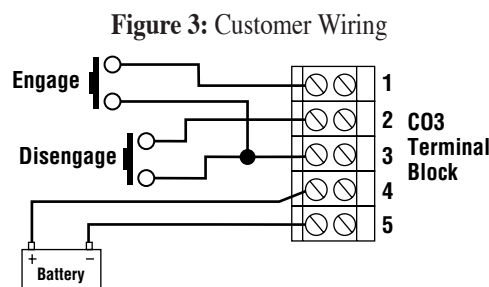

Figure 3: Customer Wiring
8. Temporarily wire Battery Negative to terminal #5, Positive to terminal #4 of the CO3 (**Figure 3**).
9. Apply a momentary N.O. push button between terminals #1 and #3. When the push button is pressed the CO3 actuator will extend (**Figure 3**). **CAUTION: Be ready to release the push button when the clutch arm is fully engaged. Damage to the clutch or the CO3 can occur if the actuator is allowed to continue to push against the clutch arm. NOTE: This is best done by energizing the CO3 for short intervals as the clutch arm approaches full engagement. Disconnect battery and remove push button from terminals #1 and #3.**
13. Place a N.O. momentary push button across terminals #2 and #3 (**Figure 3**). Press push button. Actuator should retract and disengage clutch. Actuator will "back-off" and stop when clutch is fully disengaged. **Disconnect battery and remove push button from terminals #2 and #3.**